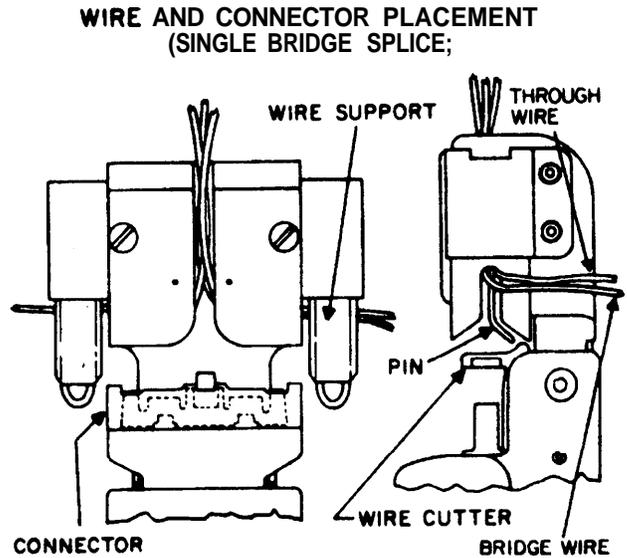

Figure 7. Placing Wires in VS-3 Tool for Single Bridge Splice Operation.
3.08 When inserting the wires for bridging, use the same procedure as described for straight splicing except: (see Figure 7)